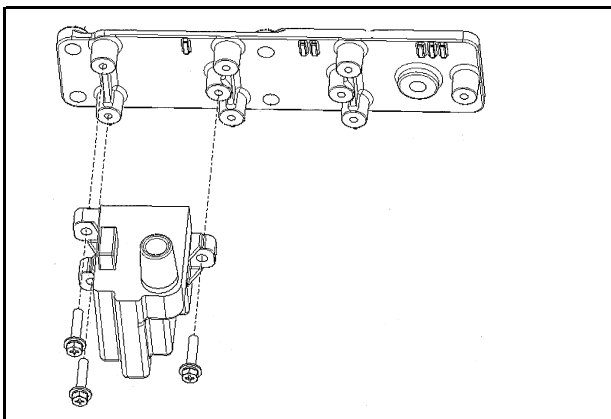

Fig. 6 - Installing IGNITION DOIL
1. Use 3 bolts install the ignition coil.Fig.6